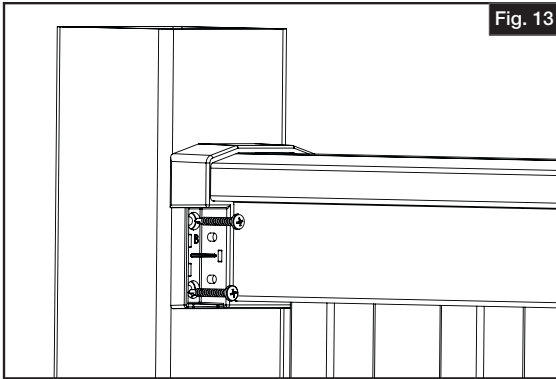

Fig. 13
- iii. Tightly install screws (Fig. 13).